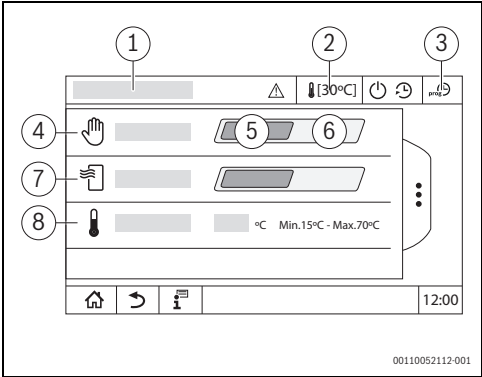

Fig. 2 Advanced functions, Manual operation
- Tap **Off** (→ Fig. 2, [5], page 6).